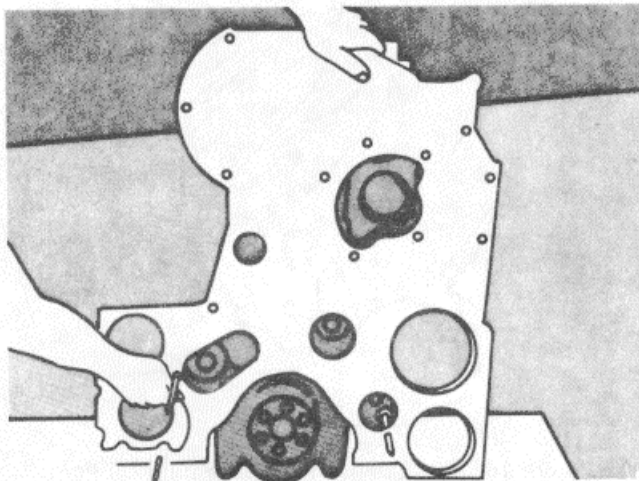

Figure 16B-52. Remove the Steel Plate
2. Remove the steel plate, Figure 16B-52.